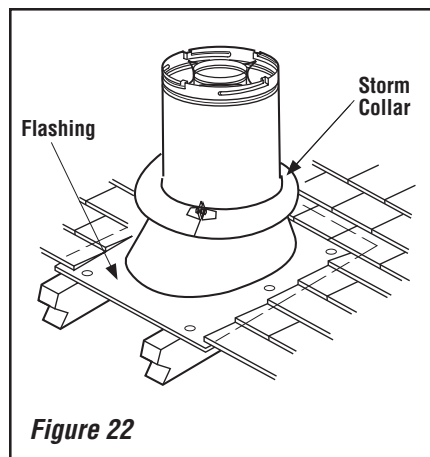

Figure 22
I. Install the roof flashing - Extend the vent sections through the roof structure. Install the roof flashing over the vent section and position such that the vent column rises vertically (use carpenter's level) (**Figure 22**). Nail along perimeter to secure flashing or adjust roofing to overlap the flashing edges at top and sides only and trim where necessary. Seal the top and both sides of the flashing with waterproof caulking.
J. Install the storm collar - Install the storm collar, supplied with the flashing, over the vent/flashing joint (see **Figure 22**). Loosen the storm collar screw. Slide collar down until it meets the top of the flashing. Tighten the adjusting screw. Apply non-combustible caulking or mastic around the circumference of the joint to provide a water tight seal.